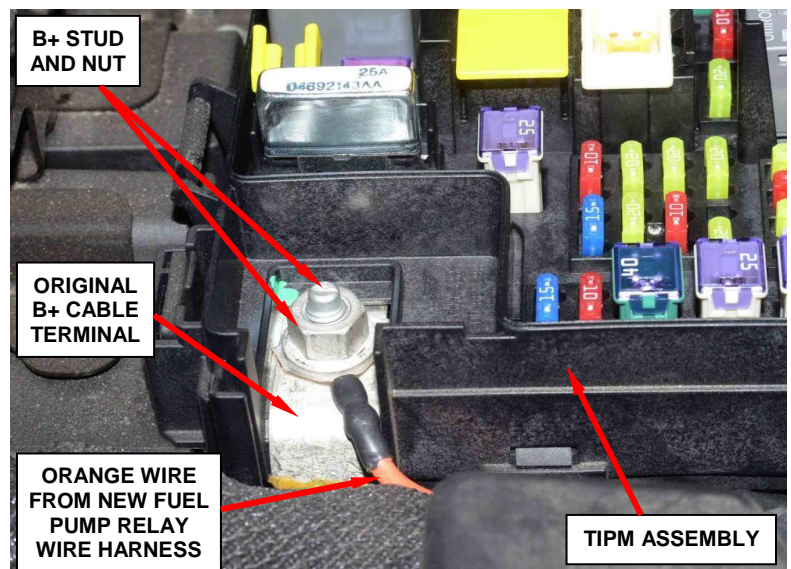

**Figure 23 – Install Back Cover and Tie Strap**
27. Install a plastic tie strap to hold the wire harness in place on the back side of the 40-way electrical connector (Figure 23).